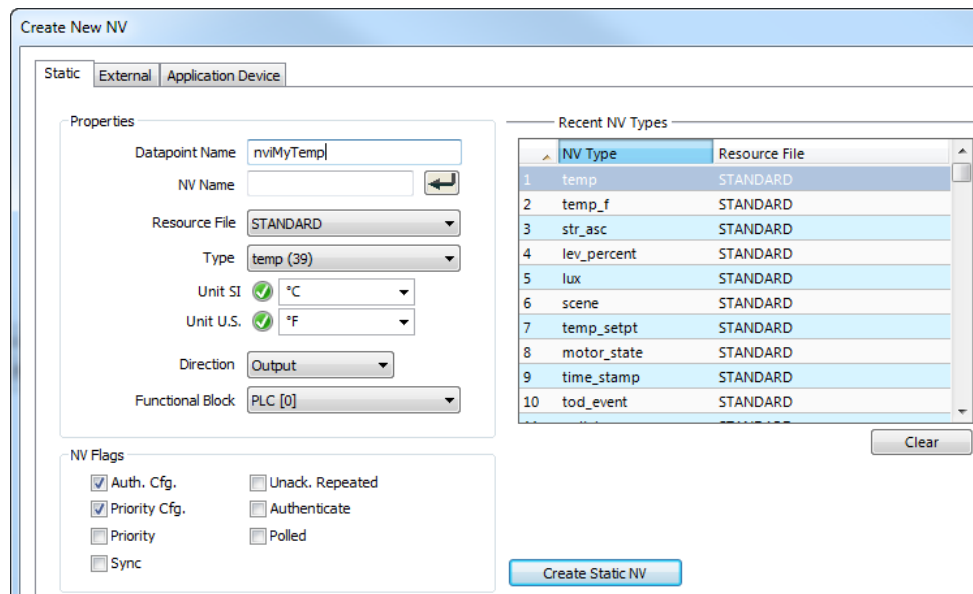

Figure 188: Create a static NV manually.
2. Right-click in the data point list and select **New Datapoint...** in the context menu. This opens the NV creation dialog as shown in Figure 188.